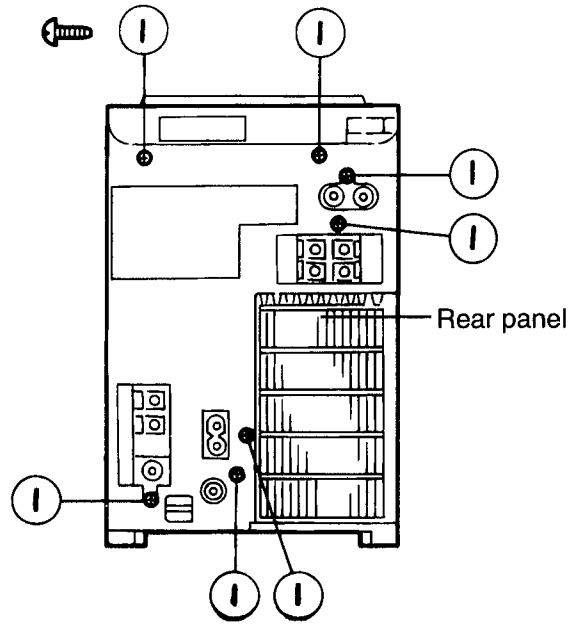

Fig. 1
(See Figs.1 and 2)
1. From behind the body, remove the seven screws ① retaining the rear panel (See Fig.1).